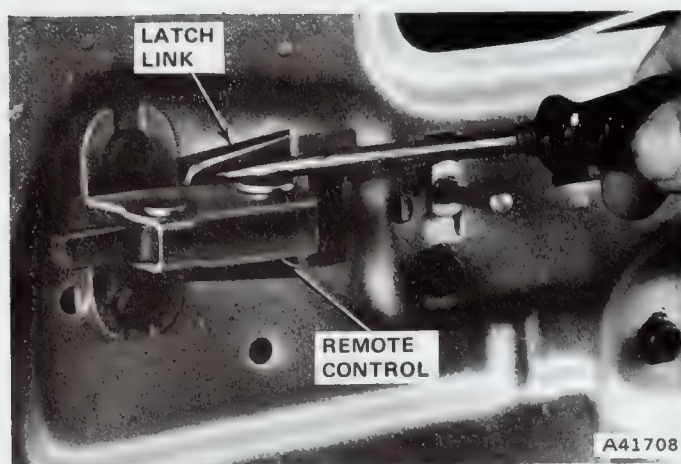

Fig. 3J-38 Remote Control Link Removal—Matador
- (1) Remove door trim panel and water dam paper.
- (2) Remove remote link from remote control by prying up link (fig. 3J-38).
- (3) Remove remote control attaching screws and remove control.